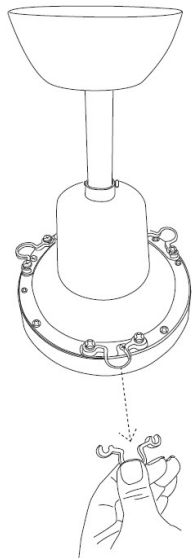
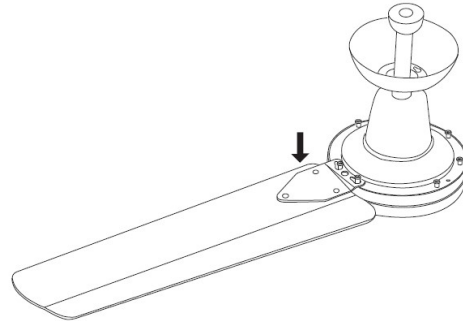

Fig. 1
Fig. 2
1. Remove the plastic shipping stabilizer tabs as in Fig. 1 then fit the blades to the fan motor as shown below in fig. 2 with bracket facing upward.